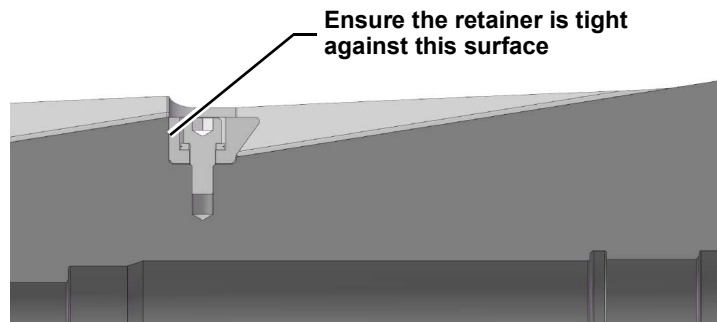

Figure 6
- Ensure the retainer is tight to the one surface of the pocket before the bolts are tighten. See Figure 6: